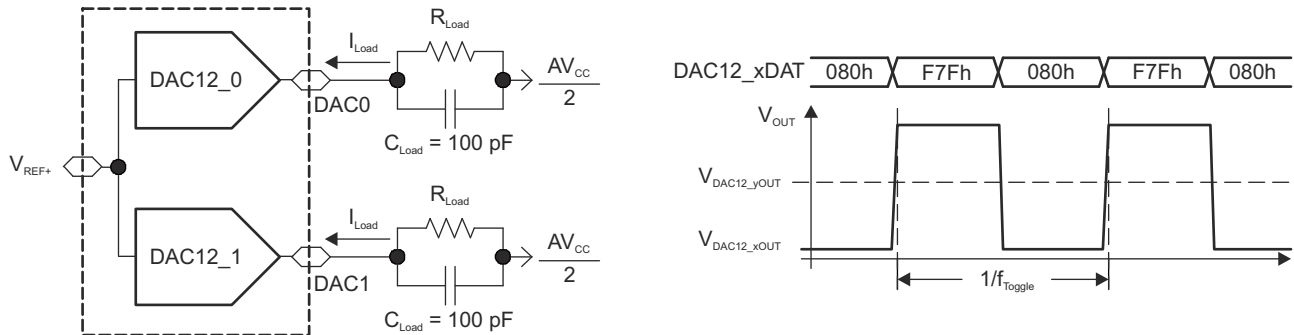

图 8-22. Crosstalk Test Conditions
| Channel-to-channelcrosstalk (1) (see 图 8-22)   | DAC12_0DAT = 800h, No load,DAC12_1DAT = 80h $\leftrightarrow$ F7Fh, $R_{Load} = 3\text{ k}\Omega$ ,$f_{DAC12\_1OUT} = 10\text{ kHz}$ at 50/50 duty cycle | 2.2 V, 3 V |     | -80 |     | dB   |